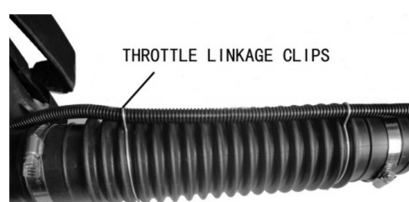
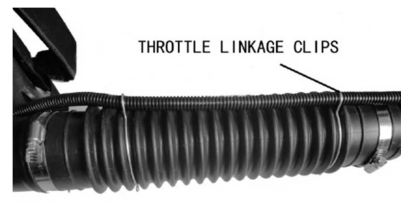

Fig.5
Fig.6
4. Attached throttle linkage clips - to both ends of the flex tube to secure the throttle cable. (See Fig.5 and Fig.6)